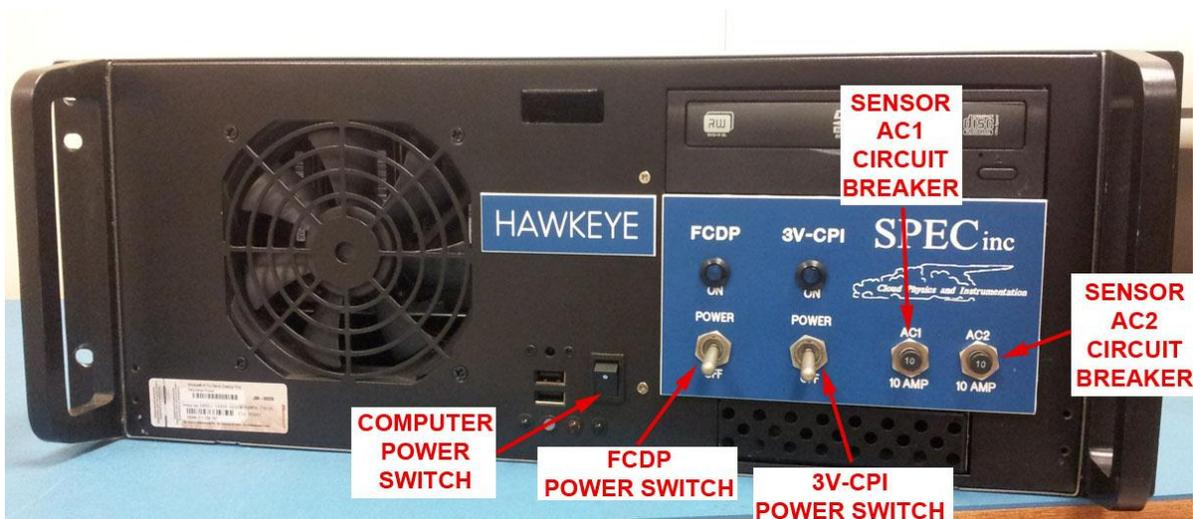

Figure 2.3.2. Front panel of the Hawkeye DAS.
2. Start the Data Acquisition System (DAS) computer by pressing the computer power switch on the lower center side of the computer (see **Figure 2.3.2**). Allow the computer to boot up.
4. After the programs have started, switch on the sensor power switch on the front panel of the DAS (see **Figure 2.3.2**).
5. After the programs have been closed, switch off the sensor power switch on the front panel of the DAS (see **Figure 2.3.2**).